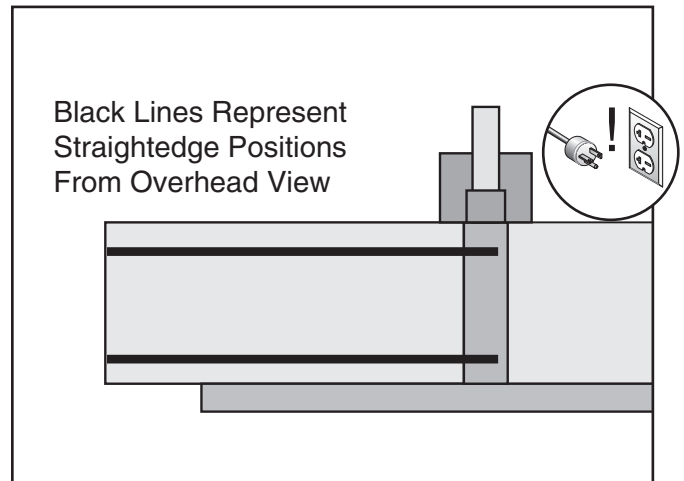

Figure 54. Straightedge positions on the outfeed table.
5. Place the straightedge on the outfeed table and check the knife height at the two positions illustrated in **Figure 54**.